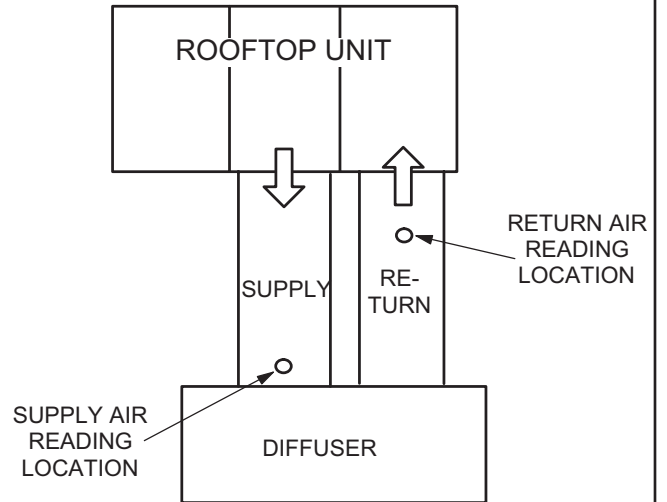

FIGURE 32
- 2 - With all access panels in place, measure static pressure external to unit (from supply to return). Blower performance data is based on static pressure taken in locations shown in FIGURE 32.